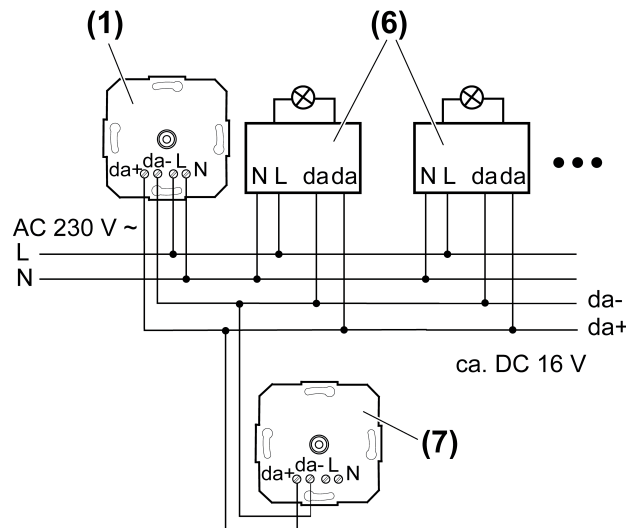

Figure 3
- (1) DALI potentiometer "Active mode"
- (6) DALI subscriber, e.g. DALI-EVG, DALI Device Type 8 for Tunable White
- (7) DALI potentiometer without connection of mains voltage "Passive mode"
- Connect the DALI potentiometer and DALI electrical ballast according to the wiring example (figure 3). In so doing, observe the data of the electrical ballast manufacturer.